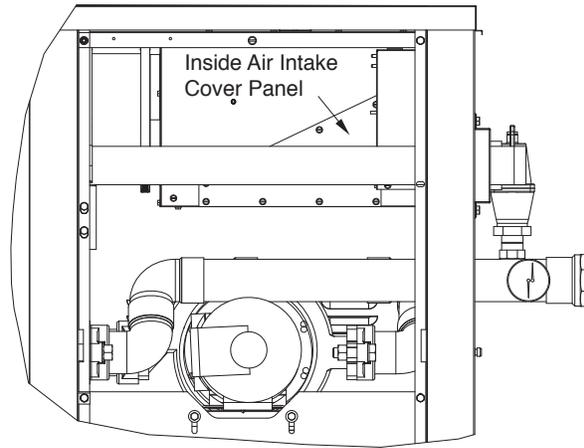

Figure 8. Install the Inside Air Intake Cover Panel
4. From the right-rear side access area, install the inside air intake cover panel using the nine hex-head screws provided. See **Figure 8**.